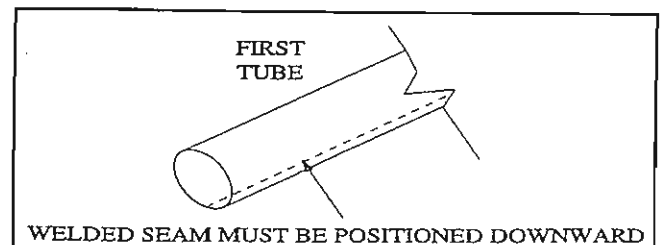
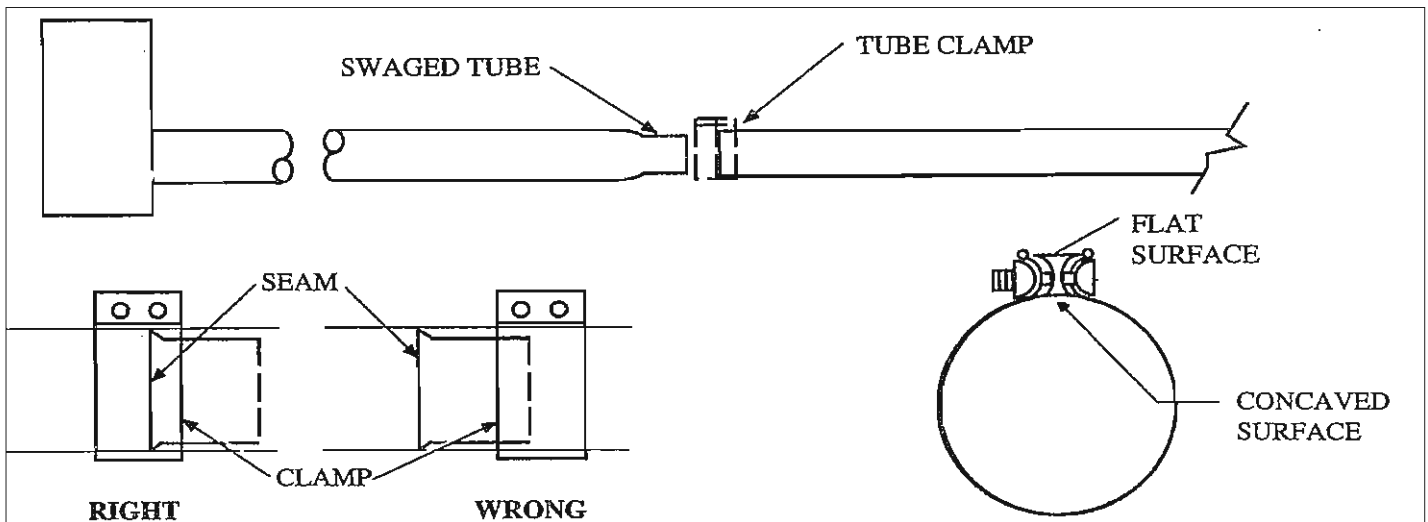

Figure 1-8
Figure 1-9
- Mount hangers on approximately 10 ft. centers. Slide tubes through hangers with weld seam downward (see Figure 1-8) and fasten with tube clamps (see Figure 1-9). Center clamps on seams.
NOTE: The tube clamps provided with the heater are pre-assembled at the factory. If a clamp is dismantled, it is important that upon reassembly the spacer is properly inserted (see Figure 1-9). The spacer's concave surface **must** face the radiant tube. Incorrect spacer placement will result in shearing of the bolt when torqued to the recommended specification (50-70 lb.-ft).